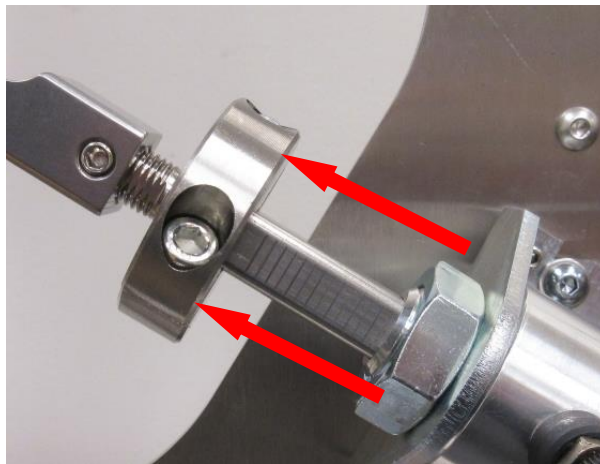

Figure 5
- Using a 3/16" hex wrench, loosen the two (2) bolts on all four (4) stop collars and slide them forward on the cylinder shaft to where the threads start. Retighten the bolts on all four (4) stop collars using the 3/16" hex wrench. (**Figure 5**)